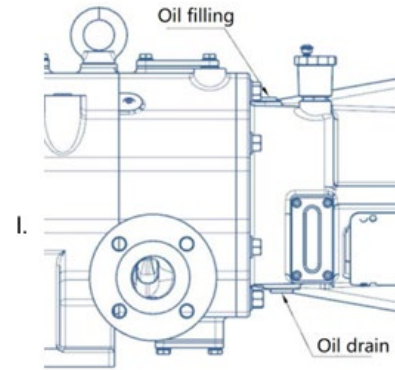

Figure 4
1. Loosen the plugs on both the front and back covers, as illustrated in Figure 4.
2. Loosen plugs on both the front and rear covers, as seen in Figure 4.